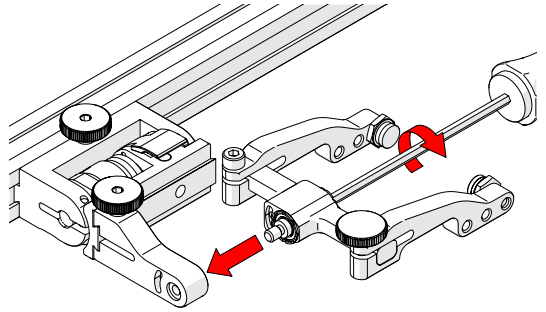

Fig. 151 - Install yoke to swing arm
6. Using the 3 mm hex driver, screw the yoke pivot screw into the opposite side of the probe holder swing arm (*Fig. 151*). Ensure the yoke is level to avoid issues with the plunger/set screw.